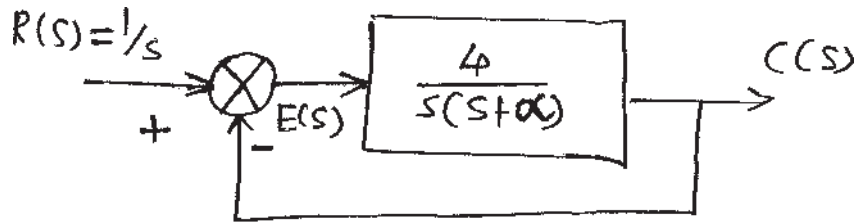

Fig. 5
b) Consider the feedback system shown in figure 5. The output required to track unit step. Find the value of α (alpha) that minimizes integral square error. [8]